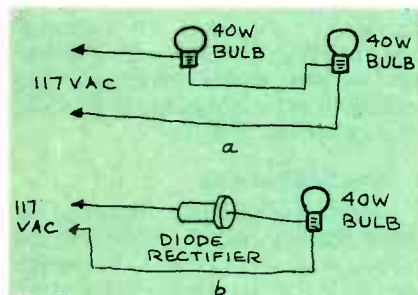

FIG. 1
Let's take another look at Don Francois' puzzle. He constructed the two circuits shown in Fig. 1 and found that the bulb brightness in one was greater than in the other.
1. How can the voltages and currents be the same in the circuits shown in Figs. 1-a and 1-b?